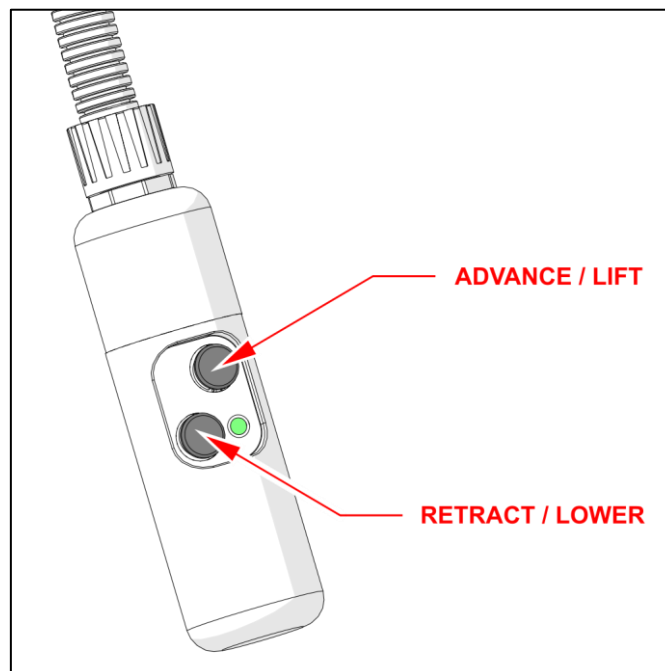

Figure 6.1: Control Pendant Operation
2. Turn the air supply 'ON'. The air pressure supplied to the unit should ideally be between 6.2 bar (90 psi) and 7.0 bar (100 psi). Make sure that the supplied air pressure is not too high or too low. If necessary, adjust the air pressure using the air pressure regulator valve (24) located on the back of the jack.
3. Using the remote 'control pendant' (8), press the 'UP' button to extend/advance the jacking cylinder and the 'DOWN' button to retract the jacking cylinder. (See figure 6.1)